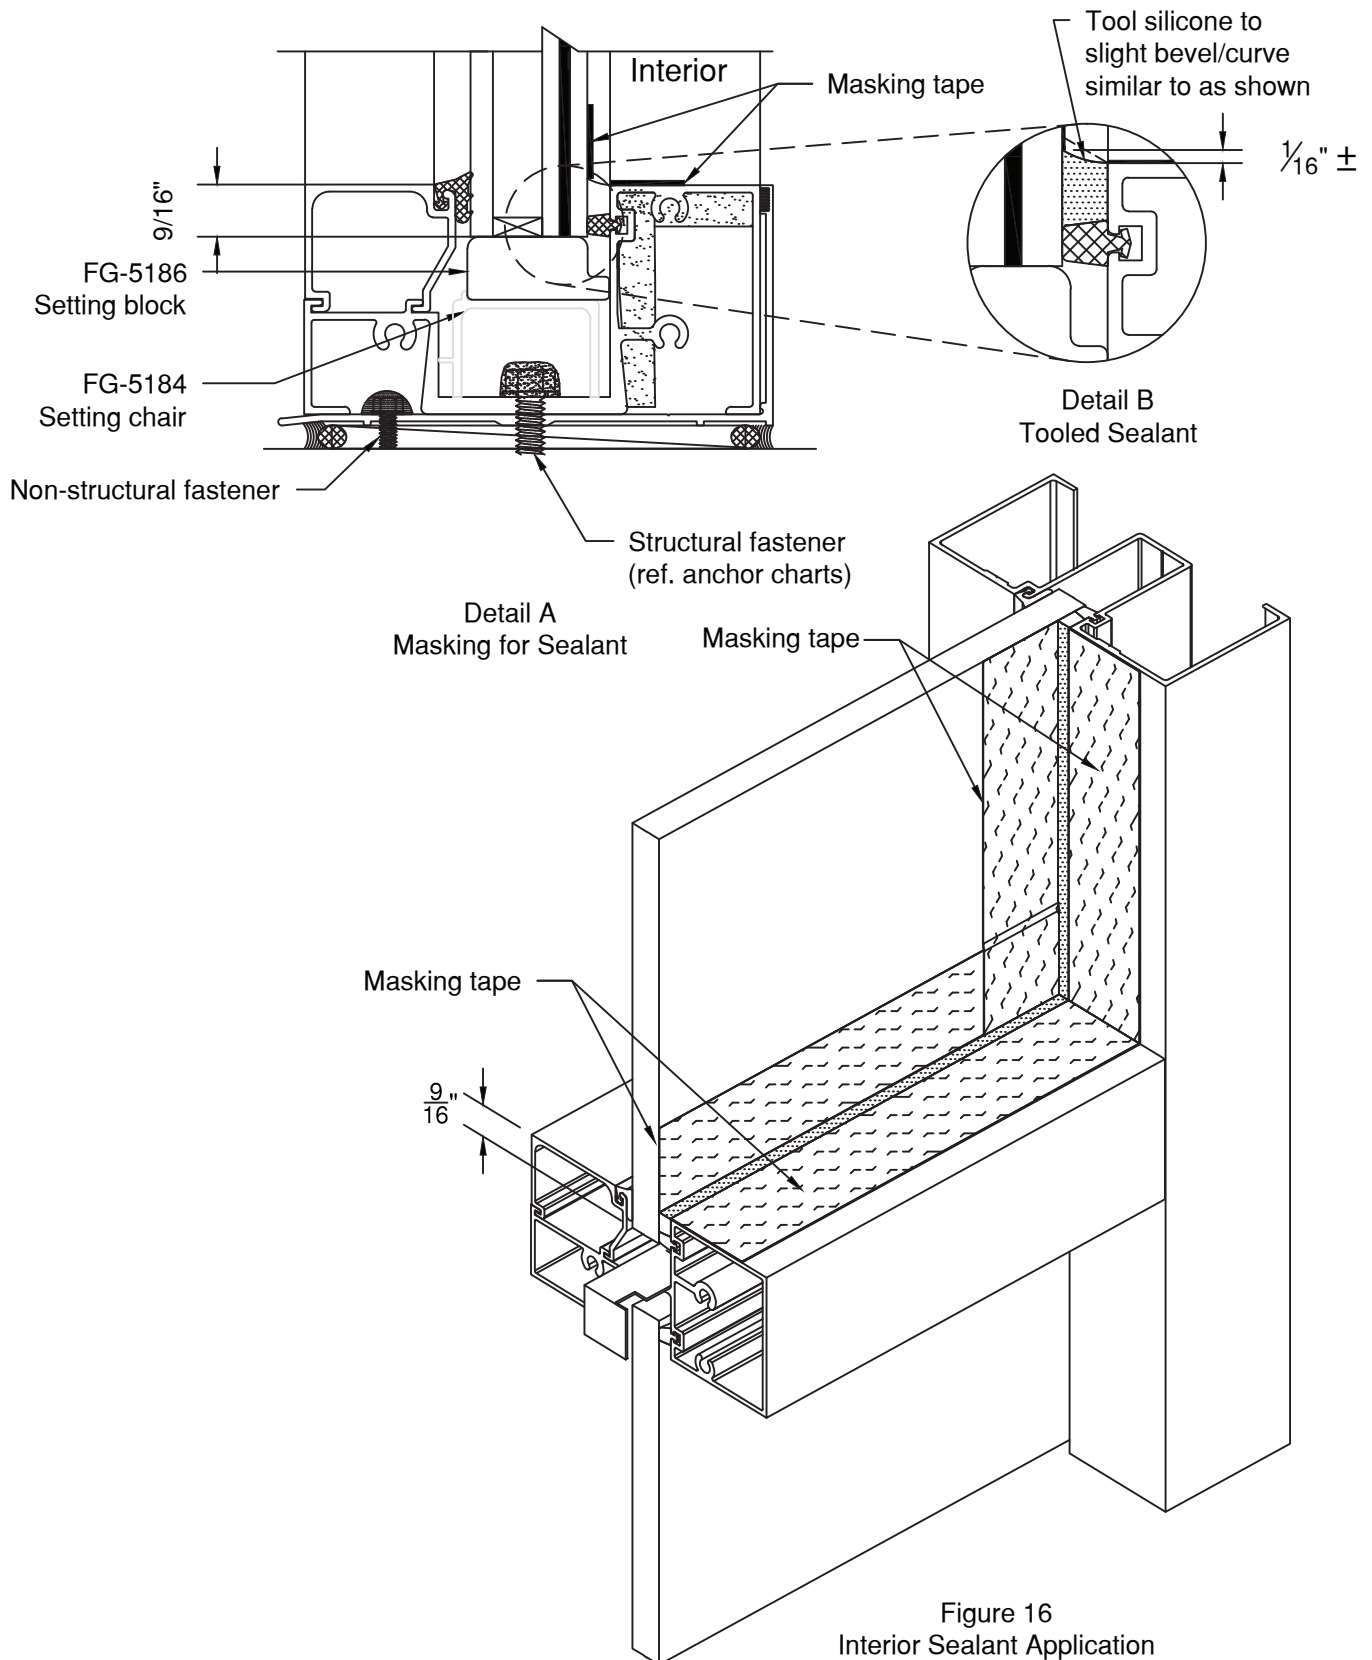

Figure 16
- 4W.2.1 Set glass into opening, push in to deep pocket first, at sill place glass on FG-5184 setting chair, then after centering in DLO, pull glass up and position FG-5186 setting block on setting chair (at 1/4 points) **See Figure 16 on Page 19.** At horizontal same procedure is used, except no setting chair is used.
4W.2.6 Mask off glass and aluminum with 1" wide (minimum) low adhesion masking tape. **See Figure 16.** Working a single DLO at a time, Fill cavity around full perimeter of DLO with Dow Corning 995 sealant as shown, care should be taken not to leave any voids and eliminate air bubbles in sealant **(See Detail. A).** Immediately tool, creating a finished joint with a beveled/curved joint surface **See Detail B on page 19.**